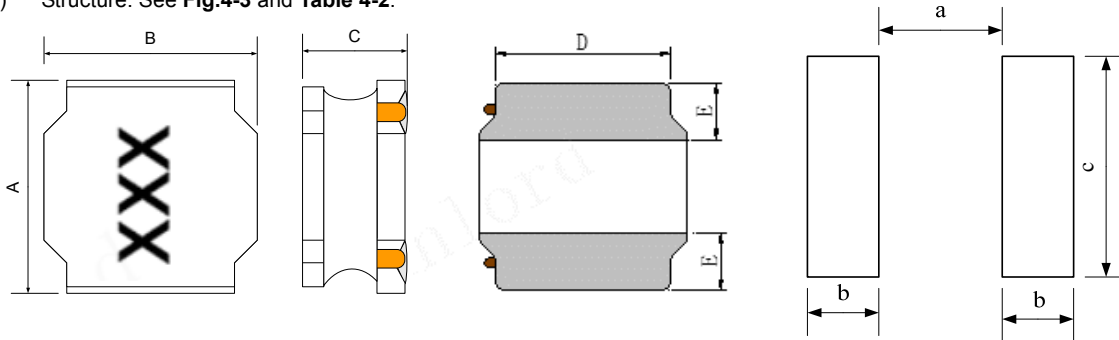

Fig.4-1
- Dimensions and recommended PCB pattern for reflow soldering, please see Fig.4-1 and Table 4-1.